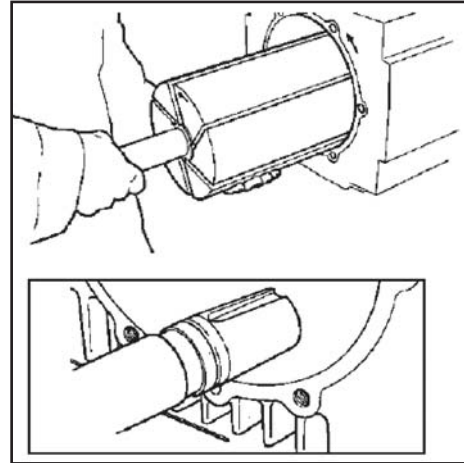

Figure 15
1. After removal of both sideplate assemblies, carefully remove the rotor from the compressor body, ensuring the shaft keyway does not damage plating or score the body ; See figure 15.